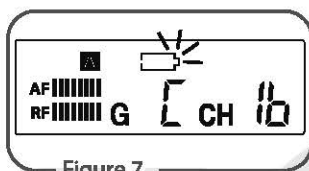

Figure 7
- (2) Low Battery indicator: if the transmitter is under low battery status, the "low battery indicator" will appear. (Figure 7)